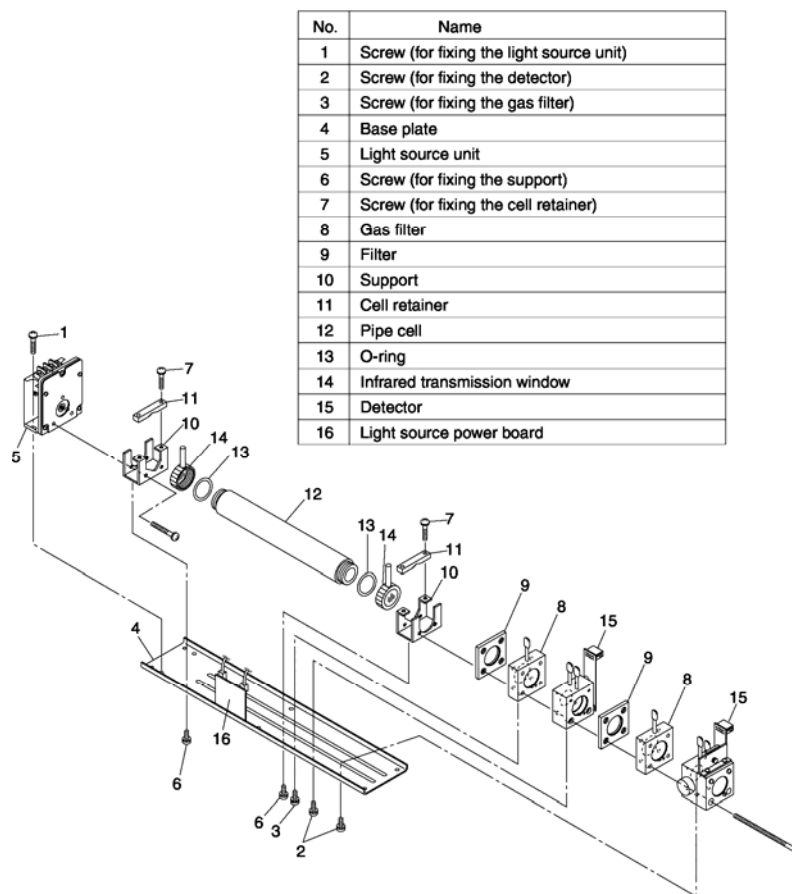

Figure 7-1: Measuring Unit Configuration (Pipe Cell)
7.4.1.1 PIPE CELL REMOVAL (SEE FIG. 7-1)